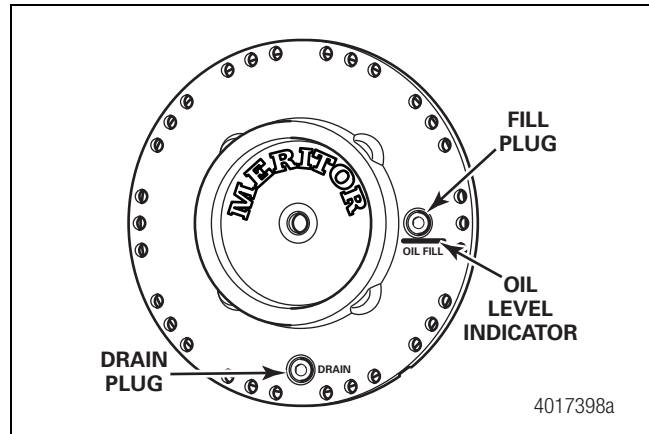

Figure 7.1
5. Place a drain pan under the hub drain plug. Rotate the wheel end so the drain plug is at its lowest position. Remove the drain plug and allow the hub oil to drain completely from the wheel end. Figure 7.1.